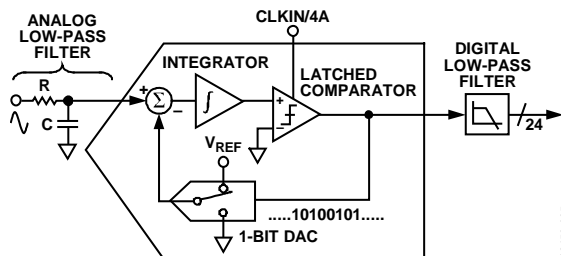
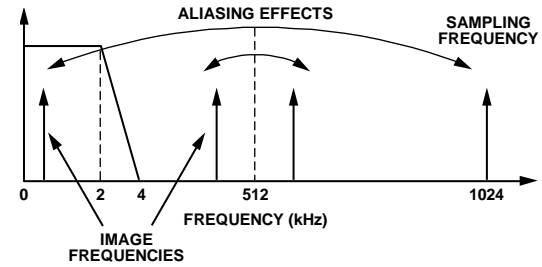

Figure 23. First-Order Σ - Δ ADC
Figure 25. Aliasing Effects
The ADE7903 has three second-order Σ - Δ ADCs. For simplicity, the block diagram in Figure 23 shows a first-order Σ - Δ ADC. The converter is composed of the Σ - Δ modulator and the digital low-pass filter.
Figure 23 also shows an analog low-pass filter (RC) on the input to the ADC. This filter is placed outside the ADE7903, and its role is to prevent aliasing. Aliasing is an artifact of all sampled systems, as shown in Figure 25. Aliasing refers to the frequency components in the input signal to the ADC that are higher than half the sampling rate of the ADC and appear in the sampled signal at a frequency below half the sampling rate. Frequency components above half the sampling frequency (also known as the Nyquist frequency, that is, 512 kHz) are imaged or folded back down below 512 kHz. This happens with all ADCs, regardless of the architecture. In Figure 25, only frequencies near the sampling frequency of 1.024 MHz move into the bandwidth of interest for metering, that is, 40 Hz to 3.3 kHz or 40 Hz to 2 kHz. To attenuate the high frequency noise (near 1.024 MHz) and prevent the distortion of the bandwidth of interest, a low-pass filter (LPF) must be introduced. It is recommended that one RC filter with a corner frequency of 5 kHz be used for the attenuation to be sufficiently high at the sampling frequency of 1.024 MHz. The